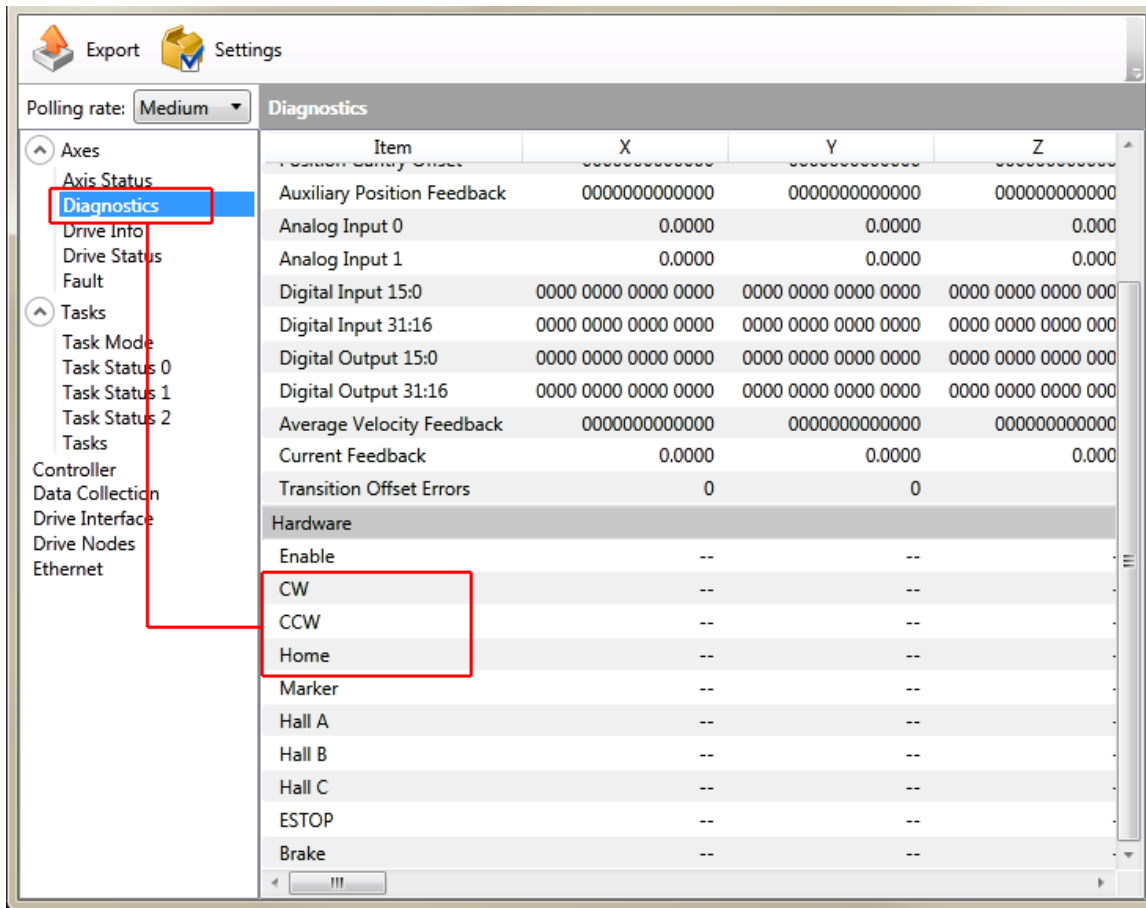

Figure 2-29: End of Travel and Home Limit Input Diagnostic Display
End of Travel (EOT) limits are required to define the end of the physical travel on linear axes. Positive or clockwise motion is stopped by the clockwise (CW) end of travel limit input. Negative or counterclockwise motion is stopped by the counterclockwise (CCW) end of travel limit input. The Home Limit switch can be parameter configured for use during the home cycle, however, the CW or CCW EOT limit is typically used instead. All of the end-of-travel limit inputs accept 0-5 VDC level signals. Limit directions are relative to the encoder polarity in the diagnostics display (refer to Figure 2-29).
If the EOT limits are reversed, you will be able to move further into a limit but be unable to move out. To correct this, swap the connections to the CW and CCW inputs at the Feedback connector or swap the CW and CCW limit functionality in the software using the EndOfTravelLimitSetup parameter. View the logic level of the EOT limit inputs in the Diagnostics display (shown in Figure 2-29).